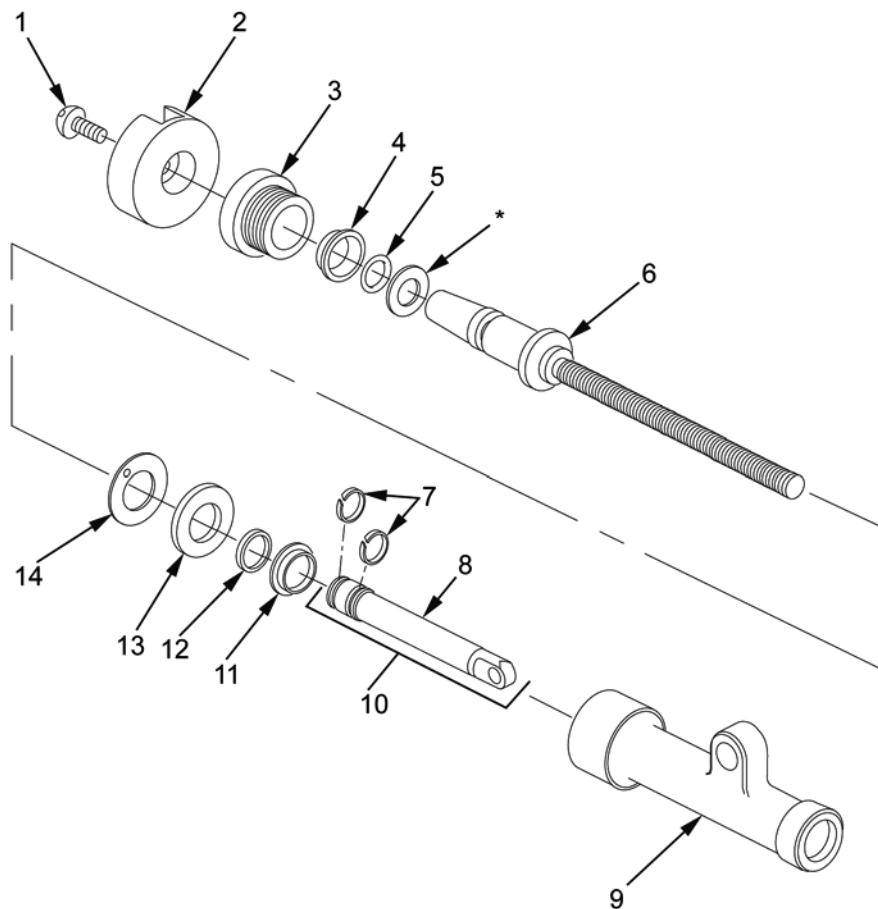

Figure 2. Assembly of Cross Leveling Assembly.
1. Using seal inserter, install new sleeve bearing (Figure 2, Item 12) and new plain seal (Figure 2, Item 11) in mechanical housing (Figure 2, Item 9).
2. Install two new wear rings (Figure 2, Item 7) to cross leveling rod (Figure 2, Item 8).
3. Install new O-ring (Figure 2, Item 5) onto shoulder screw (Figure 2, Item 6).
4. Install rod end connector (Figure 2, Item 10) into mechanical housing (Figure 2, Item 9). Exercise caution to avoid damage to plain seal (Figure 2, Item 11) and sleeve bearing (Figure 2, Item 12).
5. Install new thrust washer bearing (Figure 2, Item 14) and flat washer (Figure 2, Item 13) under flange of shoulder screw (Figure 2, Item 6). Insert shoulder screw into mechanical housing (Figure 2, Item 9) and thread onto rod end connector.
6. Install new sleeve bearing (Figure 2, Item 4) into sleeve nut (Figure 2, Item 3).
7. Using face wrench socket, install sleeve nut (Figure 2, Item 3) to mechanical housing (Figure 2, Item 12). Torque to 13.0 - 15.0 ft•lb (19 N•m).
8. Install hand crank (Figure 2, Item 2). Check for backlash. If backlash exceeds 1/8 of turn, partially disassemble to allow installation of shim(s) between sleeve nut (Figure 2, Item 3) and shoulder screw (Figure 2, Item 6) until desired backlash is achieved.
9. Remove hand crank (Figure 2, Item 2) and, using face wrench socket, remove sleeve nut (Figure 2, Item 3).
10. Apply sealing compound (WP 0032, Item 22) to threads of sleeve nut (Figure 2, Item 3).
11. Using face wrench socket, reinstall sleeve nut (Figure 2, Item 3) to mechanical housing (Figure 2, Item 9). Torque to 13.0 - 15.0 ft•lb (19 N•m).
12. Apply sealing compound (WP 0032, Item 23) to threads of socket head capscrew (Figure 2, Item 1).
13. Install hand crank (Figure 2, Item 2) and secure with socket head capscrew (Figure 2, Item 1). Tighten until seated.